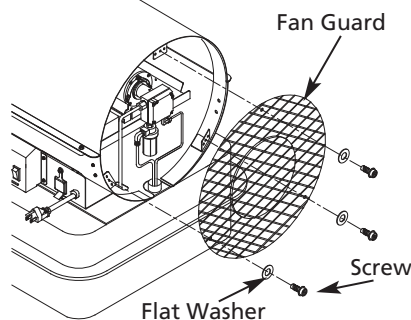

Figure 16 – Remove Fan Guard
- Use 1/4" wrench and tighten fuel line (A) at solenoid valve and at pump (See Figure 16).
- Remove fan guard (See Figure 16).
- Use 3/8" wrench and tighten fuel line (B) at pump and pump fuel filter assembly.